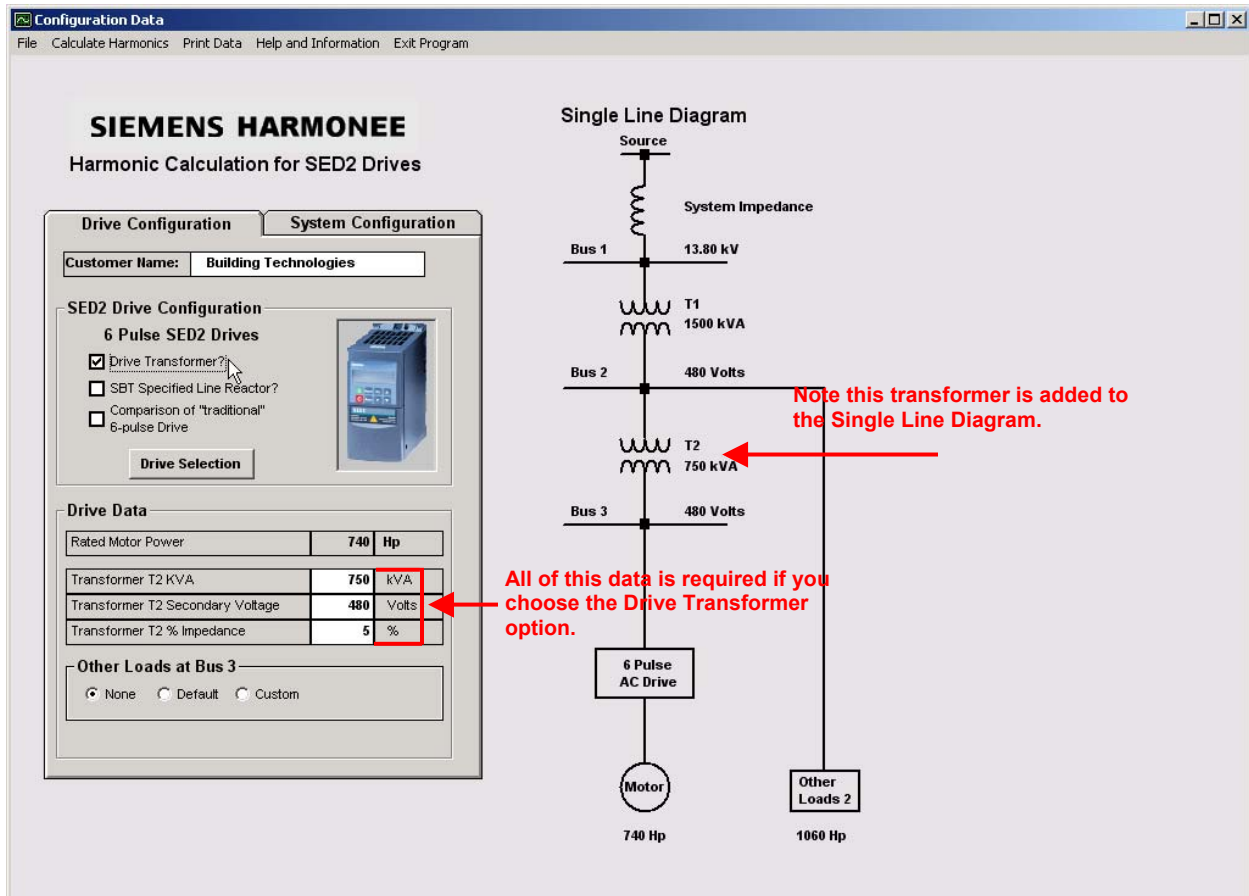

Figure 7 -- Drive Transformer Option
- a. If you specify a **Drive Transformer**, you will have to enter rated kVA, secondary voltage and % impedance. Other Loads at Bus 3 will have default to **None**, but will also offer **Default** and **Custom** as well. Checking "Custom" will require additional load info. (See Figure 7)